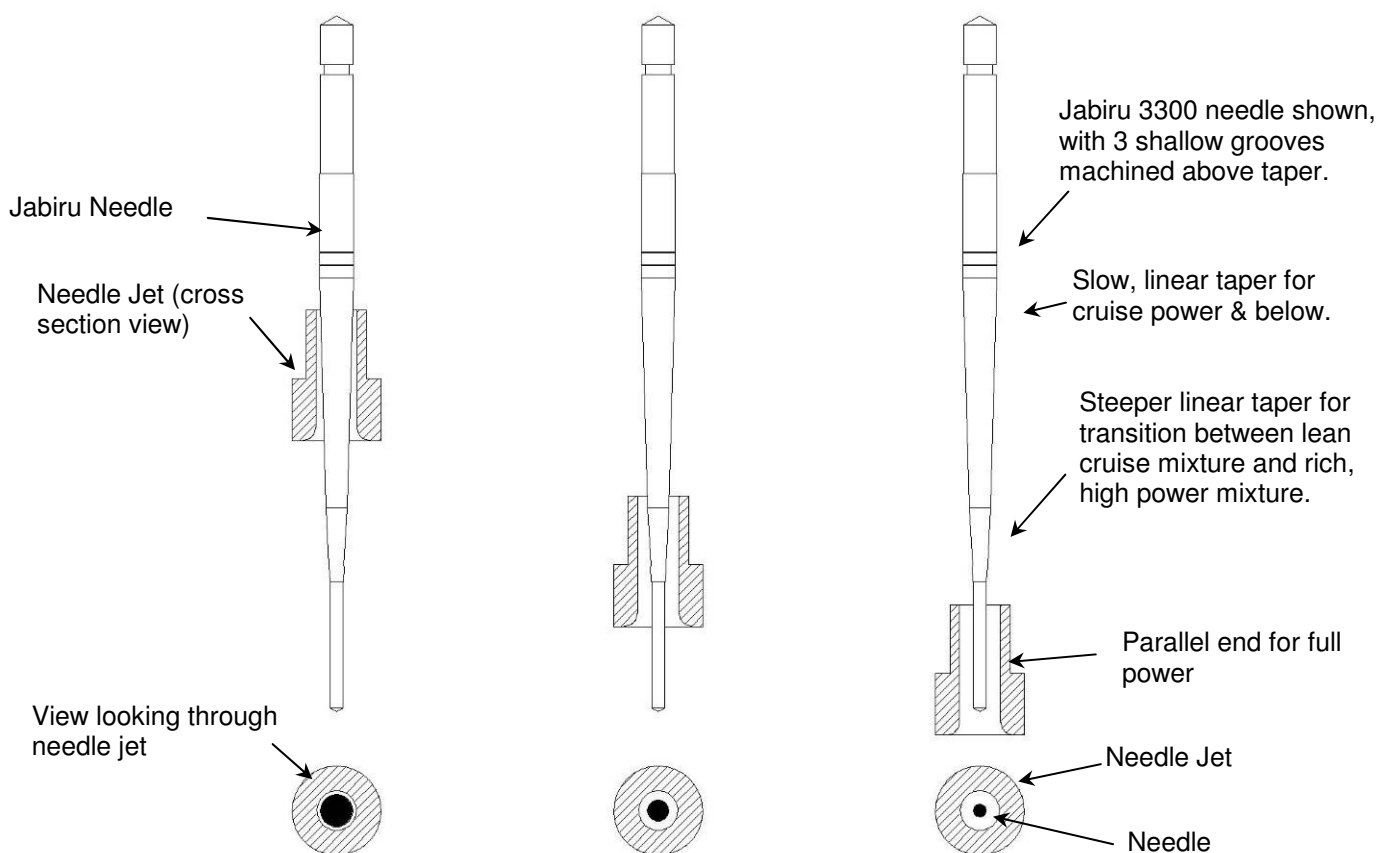

Figure 32. Needle Jet (Jabiru Needle)
- The main and idle jets have simple fixed apertures, while the effective size of the needle jet aperture varies, depending on the diameter of the needle. Figure 32 below shows three different throttle settings in the needle jet and the corresponding difference in aperture. On the left is a low power setting, where the needle jet is nearly completely blocked by the needle. The middle throttle setting corresponds approximately to a high cruise power setting. The gap between the needle and the sides of the jet is much larger. The final setting corresponds approximately to wide open throttle. The needle jet is now effectively not there, and the amount of fuel flowing is controlled by the main jet (located upstream of the needle jet in this circuit).